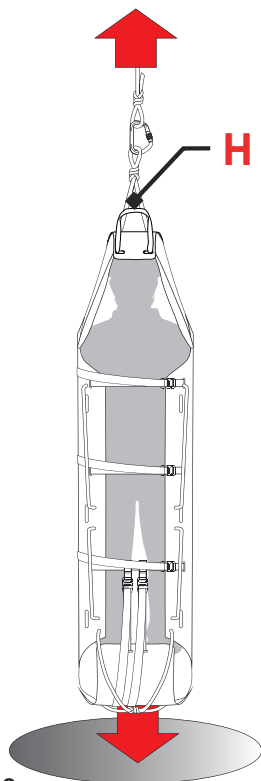

Fig.18
- **Vertical descent and recovery (fig. 18)**